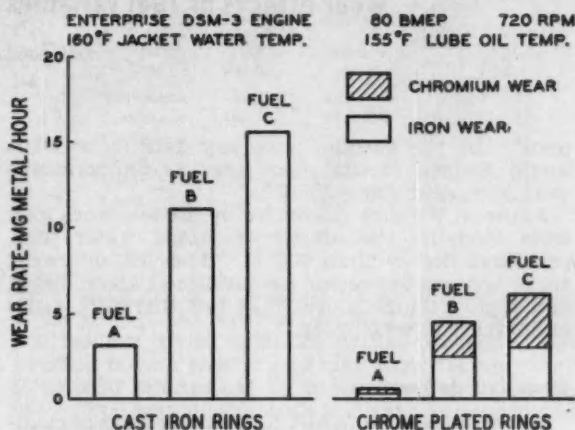

Fig. 4 — Wear rates with cast-iron and chromium-plated rings compared.
- It markedly reduced the wear with both distillate and residual fuels (as shown in Fig. 4). With all three fuels about half of the wear material was chromium (from the ring face) and half was iron (from the ring sides). So with residual fuels, which cause a large increase in wear, some means should be considered for reducing side ring wear as well as face ring wear.